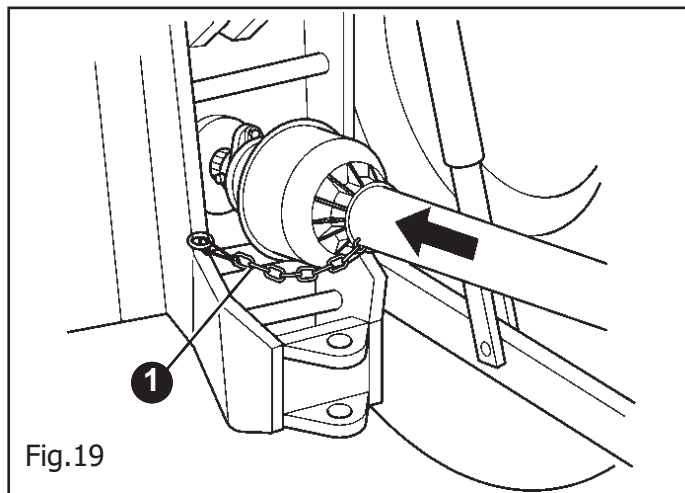

Fig.19
- 9) Engage the PTO shaft and ensure that it is locked on the PTO (Fig.19). Check that the guard turns freely and secure it with the appropriate chain.
Use the chains to hook the guards of the PTO shaft to the machine and tractor (1 Fig.19) to prevent rotation.